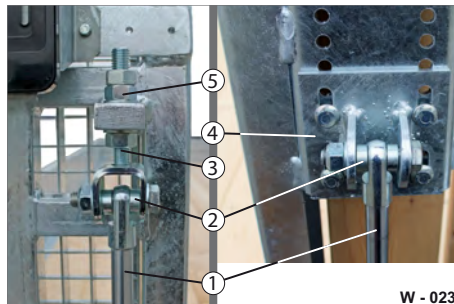

Fig. 25 Readjusting gas pressure spring
- ▶ Release the lock nuts (Fig. 25/5) / fixing console (Fig. 25/4).
- ▶ Screw the adjusting screw (Fig. 25/3) accordingly or adjust the fixing console.